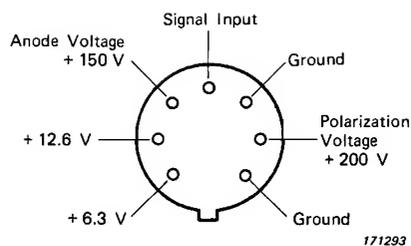

Fig.2.2. PREAMP. INPUT (viewed from rear of connection plug or outside of socket)
- PREAMP. INPUT:** 7 pin socket for connection of B & K microphones via their preamplifier. The input impedance is 900 k $\Omega$ //50 pF. For connections see Fig.2.2.